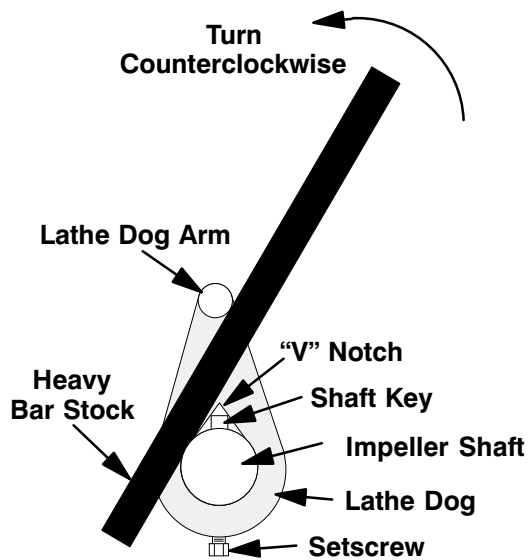

Figure E-3. Loosening Impeller
Remove the inner hardware (9 and 11) from the casing ring (12). If the removal tool is used, follow the instructions packaged with it, and pull the rotating assembly from the pump casing (see Figure E-3 for removal tool use). If the removal tool is not used, install three of the inner capscrews in the jacking holes in the casing ring, and use them to press the rotating assembly into the pump casing until the bearing housing is free.